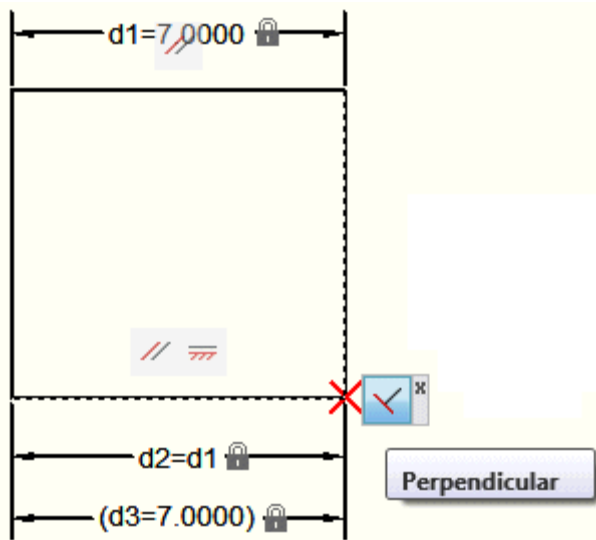

Figure 2: Highlighting a constraint bar.
5. Position the cursor over one of the small constraint bars. See figure 2. Several new things appear in the drawing: